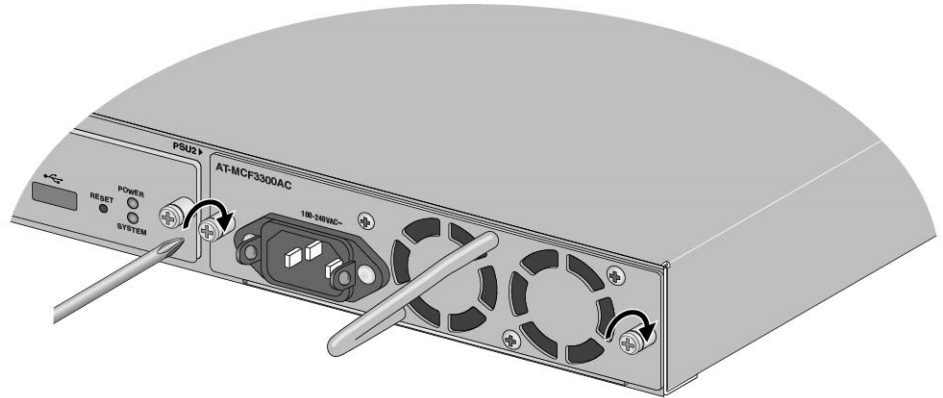

Figure 42. Securing the MCF3300AC Power Supply Module
6. Secure the power supply by tightening the two captive screws on the faceplate, with a cross-head screwdriver. Refer to Figure 42.